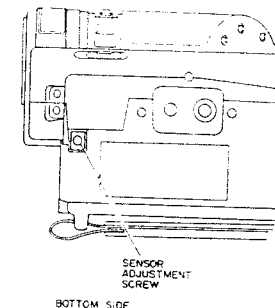

Fig. 4-81
### (1) Autofocus Sensor Position Adjustment (Fig. 4-81)